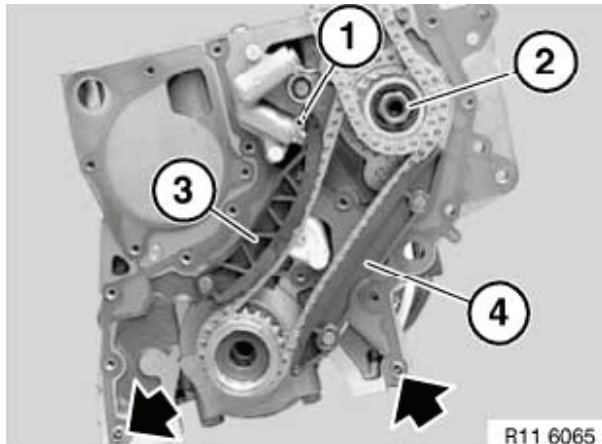

Figure 5-87
2. Compress chain tensioner rail (**Figure 5-87, (3)**) and retain with special tool OEM No. 11 3 340 (**Figure 5-87, (1)**).
3. Remove tensioner rail (**Figure 5-87, (3)**) and guide rail (**Figure 5-87, (4)**).
4. Remove nut (**Figure 5-87, (2)**).
8. Install nut (**Figure 5-87, (2)**) and tighten to 65 N·m (48 ft·lb).
9. Install tensioner rail and guide rail. Remove retainer (**Figure 5-87, (1)**).